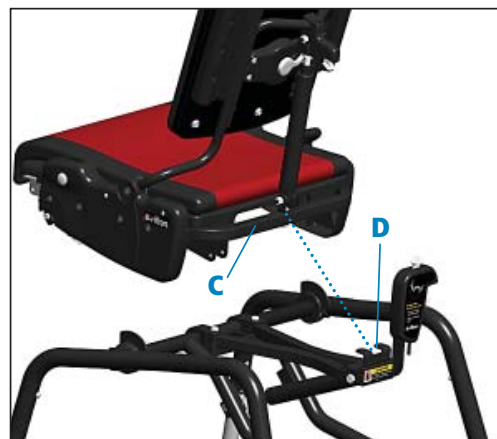

Figure 16c
Once front of seat is disengaged, pull entire seat and backrest unit towards front of chair and away from base until seat hoop (C) completely disengages from metal prongs (D) (see Figure 16c).